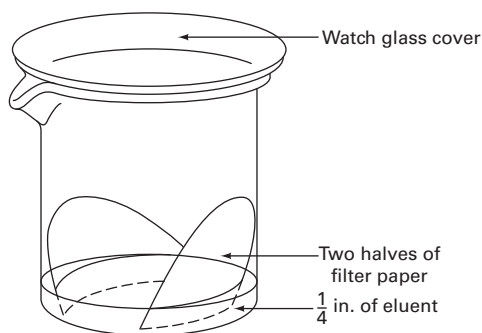

FIGURE 27.3 The secret identity of a 150-mL beaker as a TLC slide development chamber is exposed. You can substitute a jar with a cap.
1. Take a 150-mL beaker, line the sides of it with filter paper, and cover with a watch glass (Fig. 27.3). Yes, you can use other containers. I've used beakers because all chemistry stockrooms have beakers, you know what beakers look like, and it's a handy single word for the more cumbersome "thin-layer development chamber used at your institution." So if you do use jelly jars, drinking glasses, wide-mouth screwcap bottles, or whatever, just substitute that description for beaker in this discussion, OK?